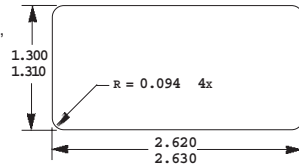

Fig. 1
- This Circuit Guard® Module has an enclosure rating of Type 3R (Rainproof) when installed in accordance with the following instructions into an enclosure, an outlet box with cover or wall plate, or a panel rated Type 3R (Rainproof) or for Wet And Damp Locations. When this Circuit Guard® Module is mounted in a custom-made panel serving in place of a standard GFCI wall plate or cover, the size of the enclosure opening for the Circuit Guard® Module's face is shown in **Figure 1**.